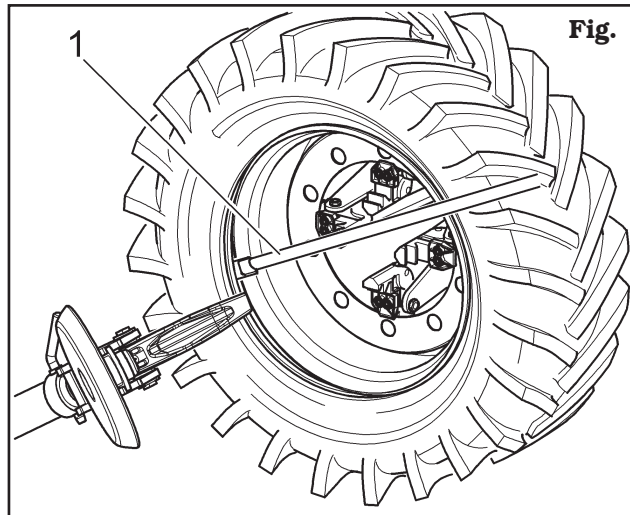

Fig. 26
- Insert lever (**Fig. 26 ref. 1**) between the rim and the bead on the right-hand side of the hook tool.